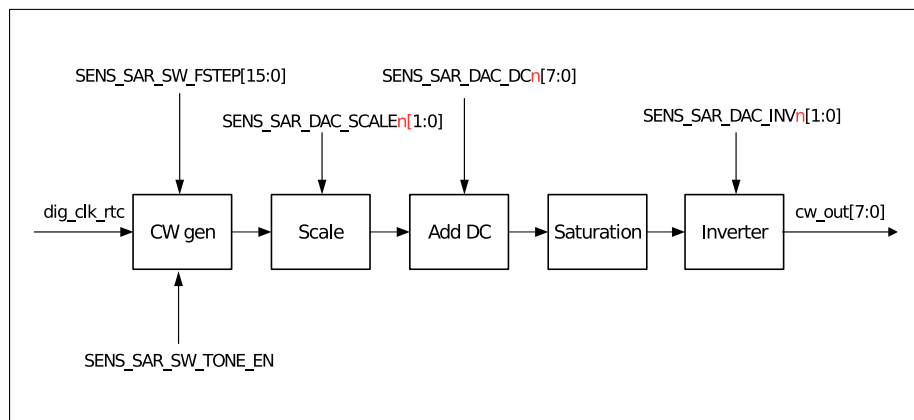

Figure 127: Cosine Waveform (CW) Generator
The cosine waveform (CW) generator can be used to generate a cosine / sine tone. A diagram showing cosine waveform generator's function is presented in Figure 127.